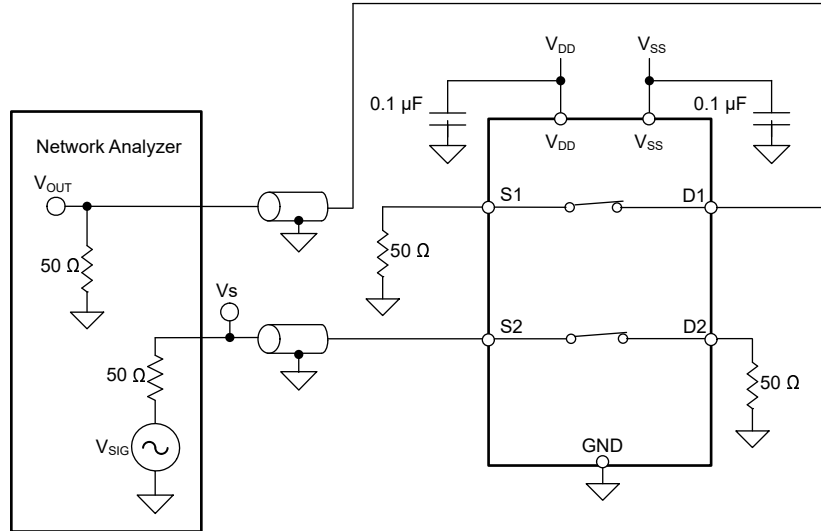

Figure 6-9. Crosstalk Measurement Setup
Crosstalk is defined as the ratio of the signal at the drain pin (D) of a different channel, when a signal is applied at the source pin (Sx) of an on-channel. Figure 6-9 shows the setup used to measure, and Equation 3 shows the equation used to calculate crosstalk.